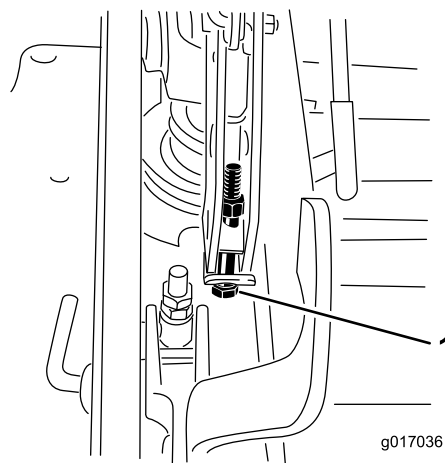

Figure 95
13. If the deck is too low, tighten the single-point adjustment bolt by rotating it clockwise. If the deck is too high, loosen the single-point adjustment bolt by rotating it counterclockwise (Figure 95).